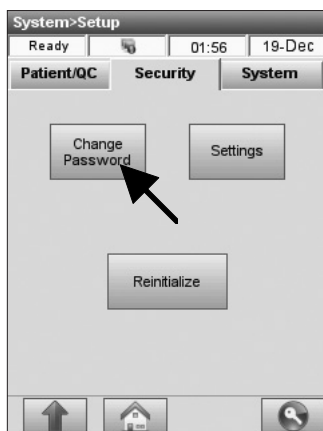

Fig. 3-58 Change Password
2. On the **<Security>** tab, press **<Change Password>** (Fig. 3-58).